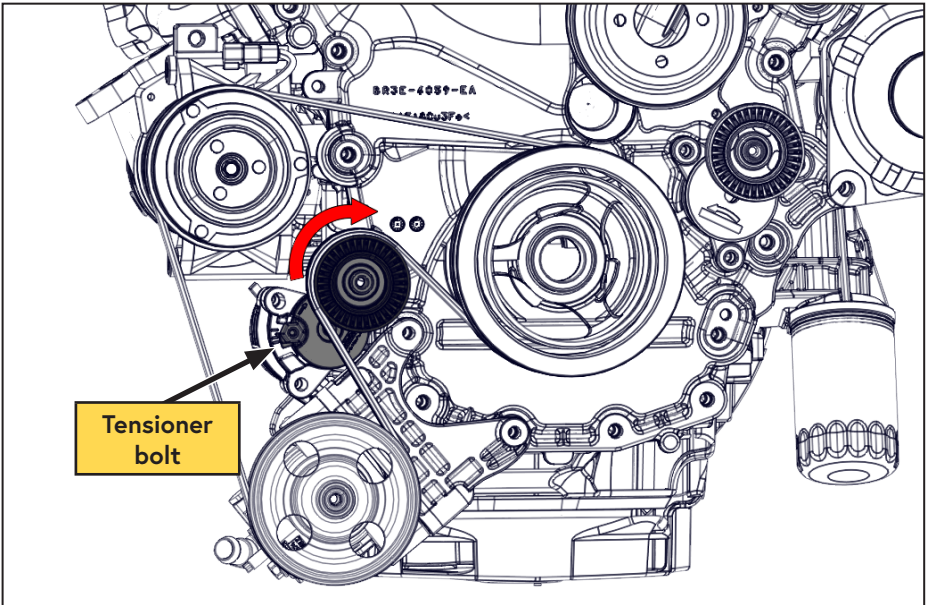

Figure 13 — Remove 4 rib belt
- Using a 14 mm wrench to release the tension, remove the OEM 4 rib belt and discard (Figure 13).